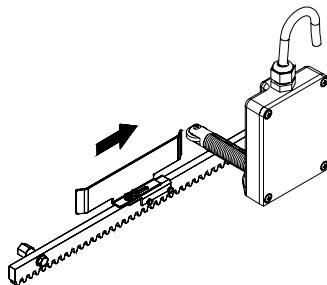

Fig.19
- 5) Allow the plate to slide over the rack in opening direction (Fig.19). As soon as the opening limit switch LED on the control board goes off, take the plate forward by about 20-30 mm and secure it provisionally on the rack, using the supplied screws.